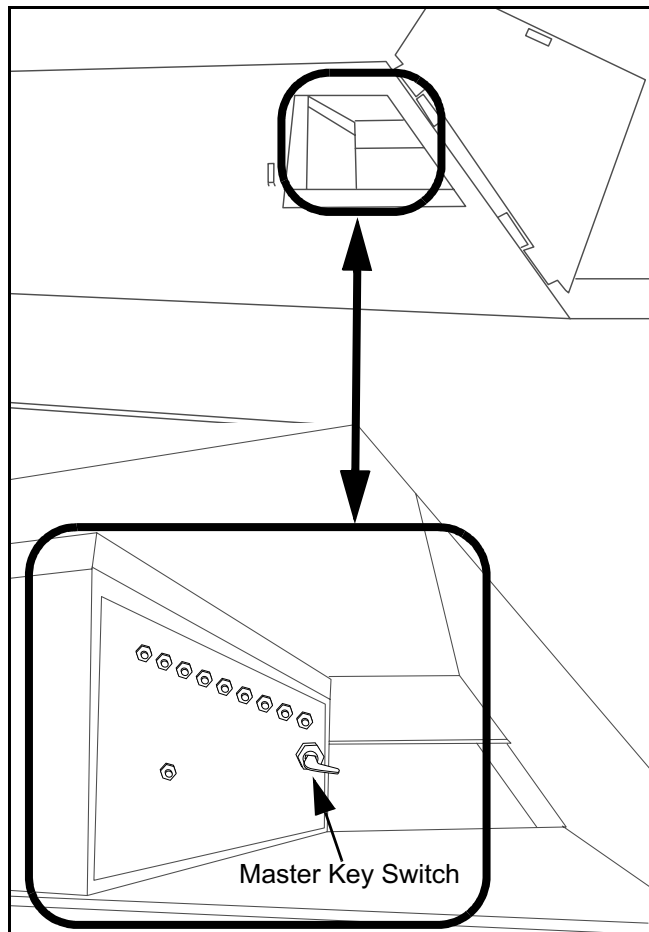

Figure 4 - 1 Master Key Switch Location
- 2) Set the Master Key Switch to the ON position. The Master Key Switch on 300 series pavers can be found inside the compartment door on the left side of the machine. (Figure 4 - 1)